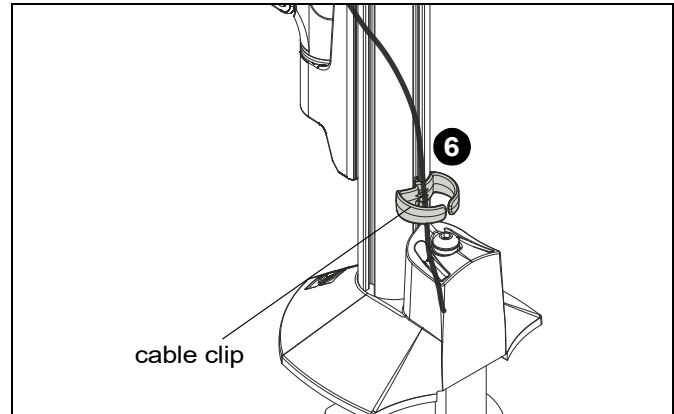

Figure 24
6. Route through cable clip on column (optional). (See Figure 24)